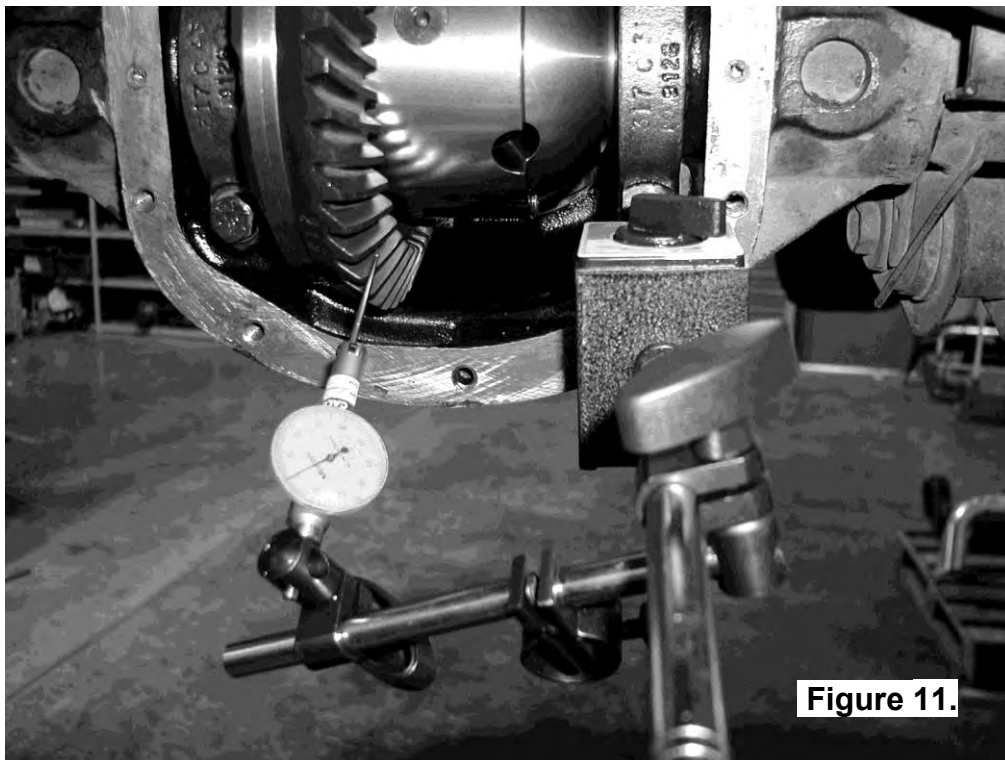

Figure 11.
- Set a depth indicator on one of the ring gear teeth as in Figure 11.